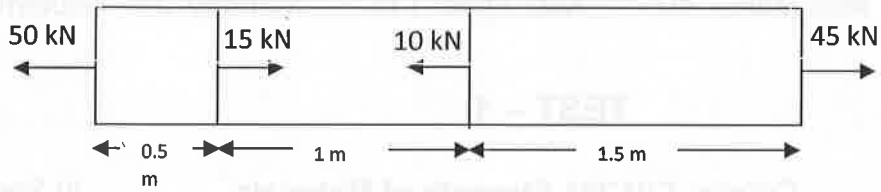

fig 2.
5. A) A bar of uniform cross section  $500 \text{ mm}^2$  is acted upon by forces as shown in figure 2. Determine the total elongation and total strain of bar. Take  $E = 200 \text{ GPa}$ .